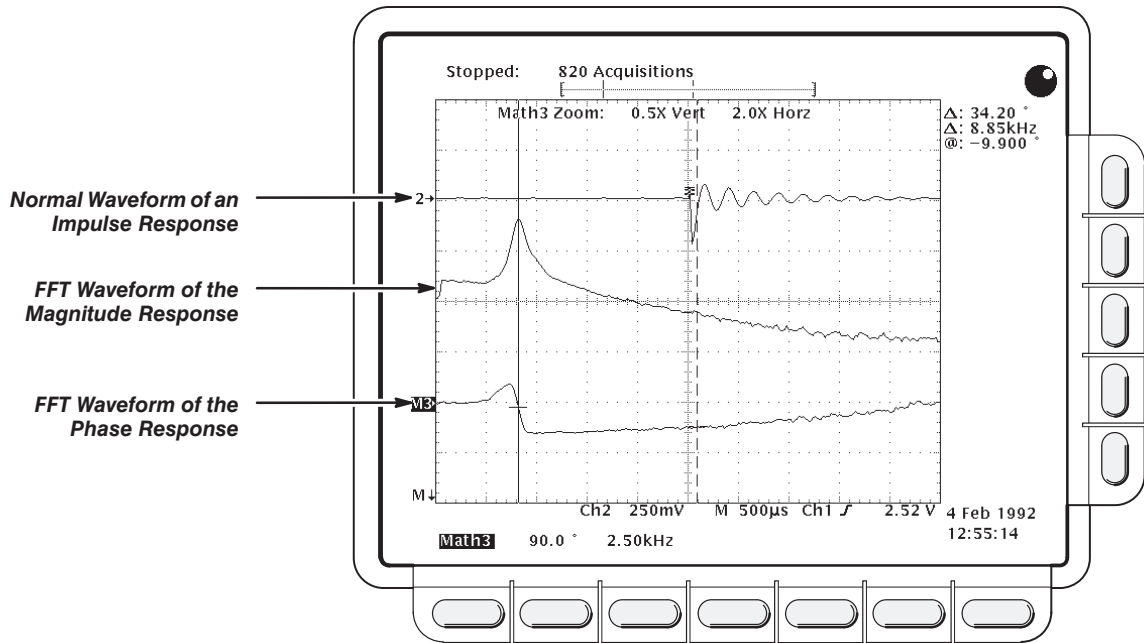

Figure 1-1: System Response to an Impulse
The resulting waveform is a display of the magnitude or phase angle of the various frequencies the waveform contains with respect to those frequencies. For example, Figure 1-1 shows the non-transformed impulse response of a system in channel 2 at the top of the screen. The FFT-transformed magnitude and phase appear in the two math waveforms below the impulse. The horizontal scale for FFT math waveforms is always expressed in frequency/division with the beginning (left-most point) of the waveform representing zero frequency (DC).